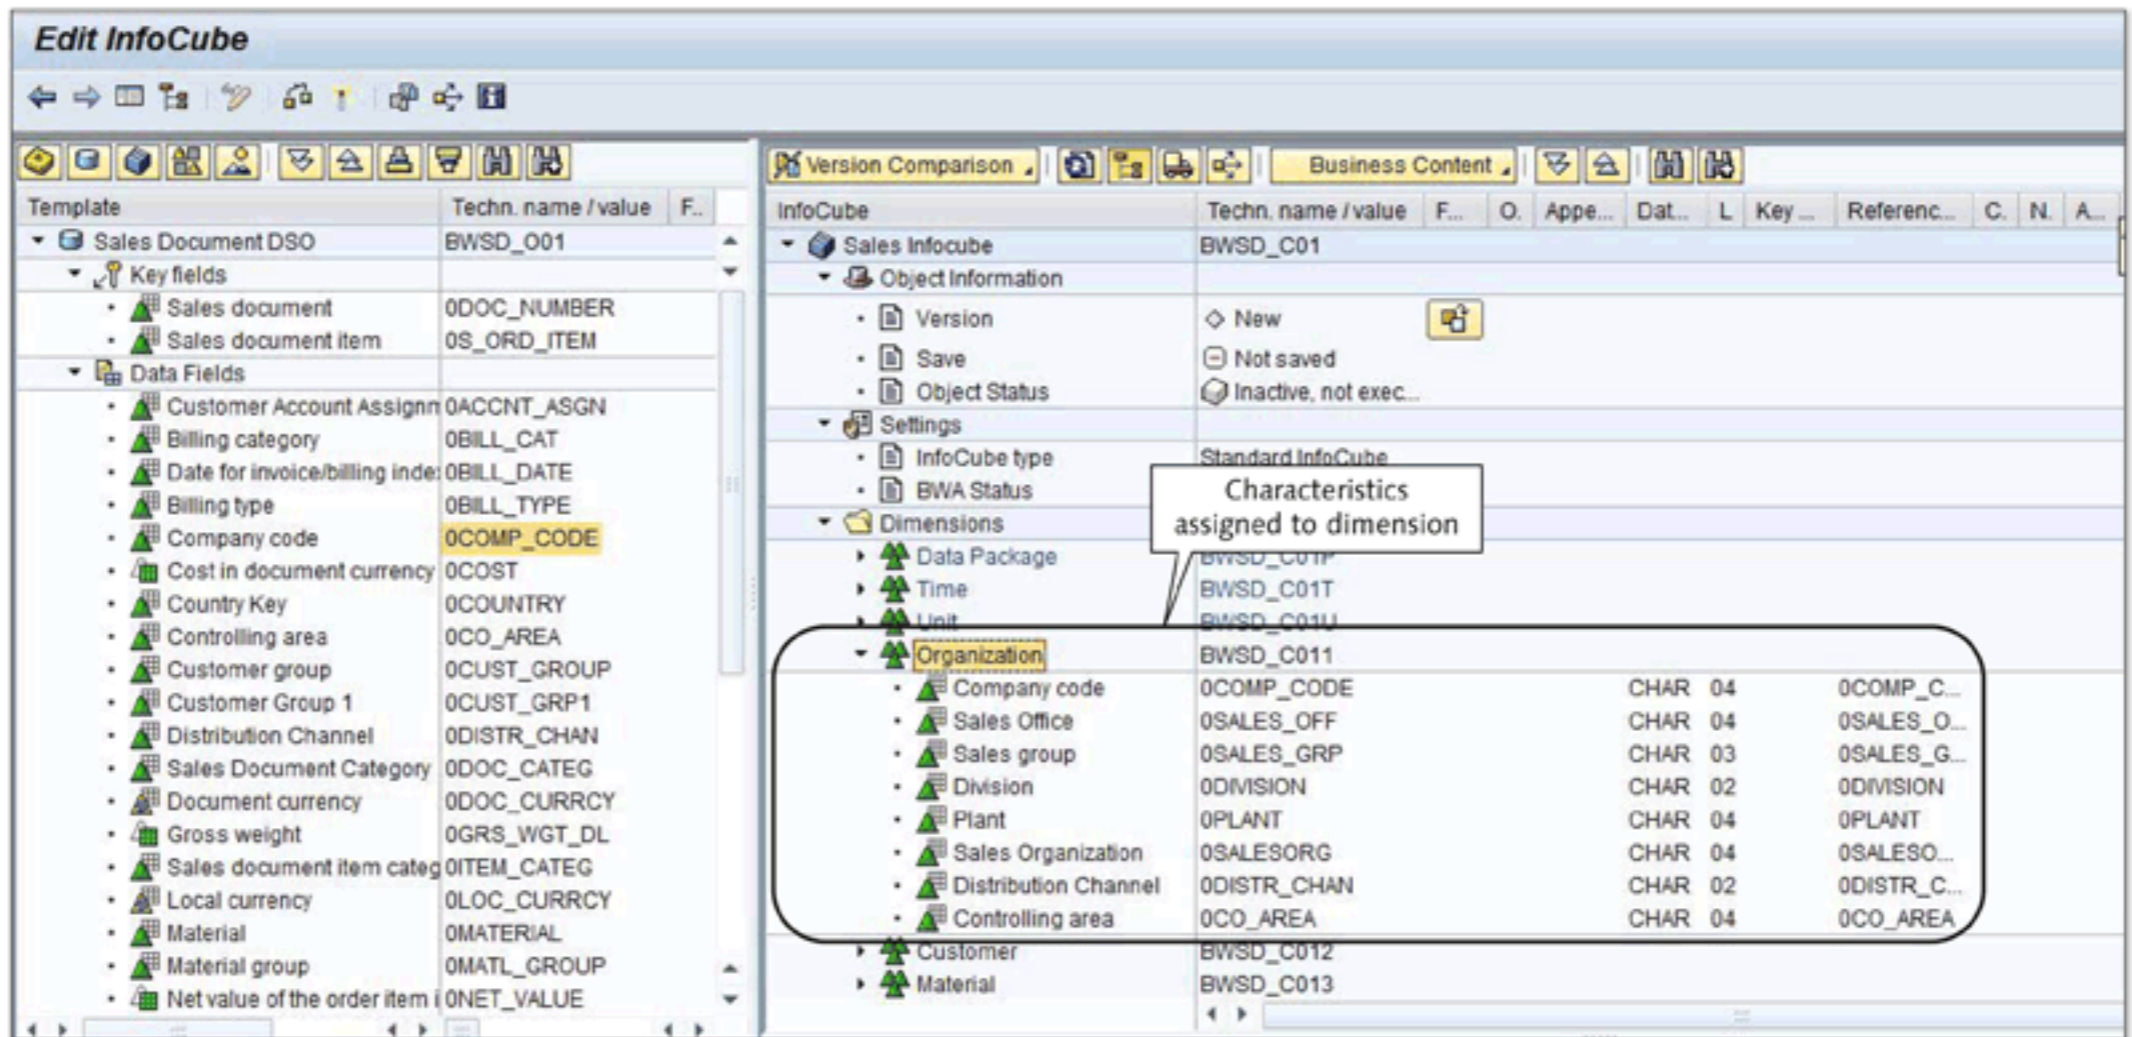

Figure 5.18 Characteristics Assigned to a Dimension
This action displays the INSERT INFOOBJECTS screen (❹). Enter the technical names of the InfoObjects you want to assign as characteristics to the selected dimension (❺). Finally, click on the CONTINUE icon (❻) to return to the InfoCube definition screen. As you can see in Figure 5.18, all of the characteristics are now assigned to the ORGANIZATION dimension in the InfoCube definition.